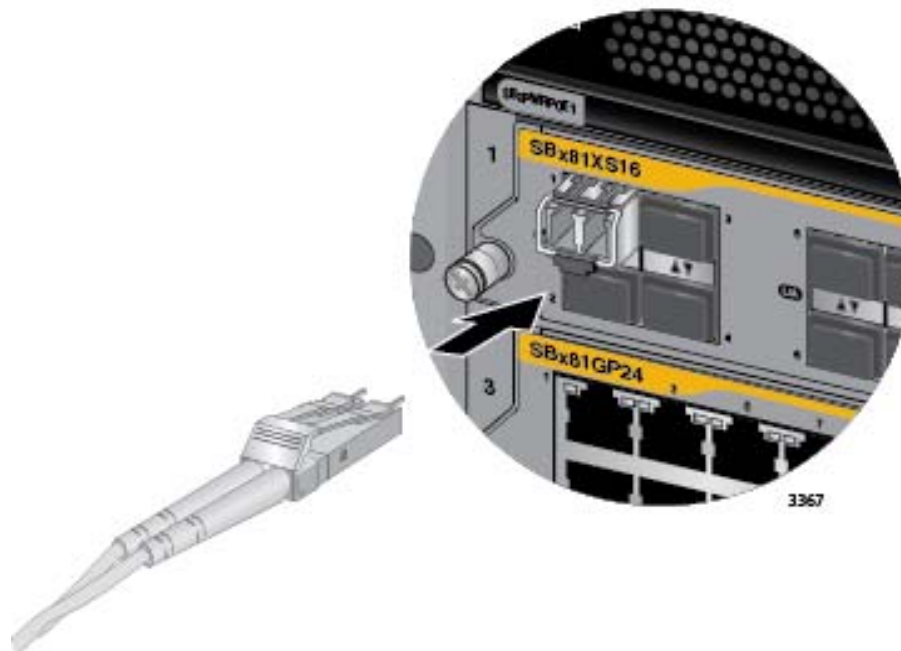

Figure 100. Attaching a Fiber Optic Cable to a Transceiver in the AT-SBx81XS16 Line Card
5. Connect the fiber optic cable to the port on the transceiver, as shown in Figure 100 on page 170. The connector should snap into the port.